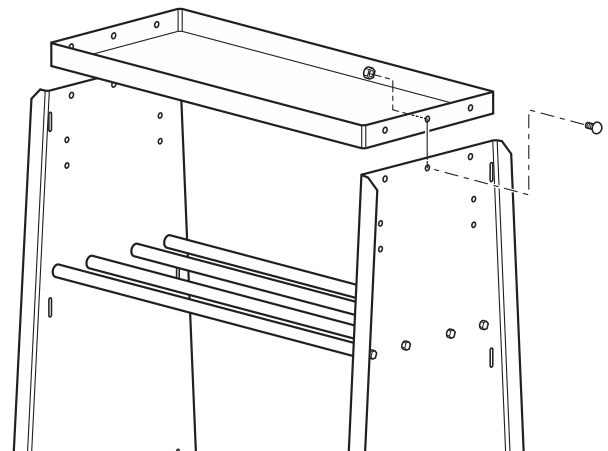

Figure 4-2
2. Using six M8 x 16 Hex Flange Bolts (item #5) and six M8 Flanged Nylock Hex Nuts (item #2), install Top Tray to Side Panel assembly as shown in Figure 4-2. **Do not full tighten nuts at this time.**